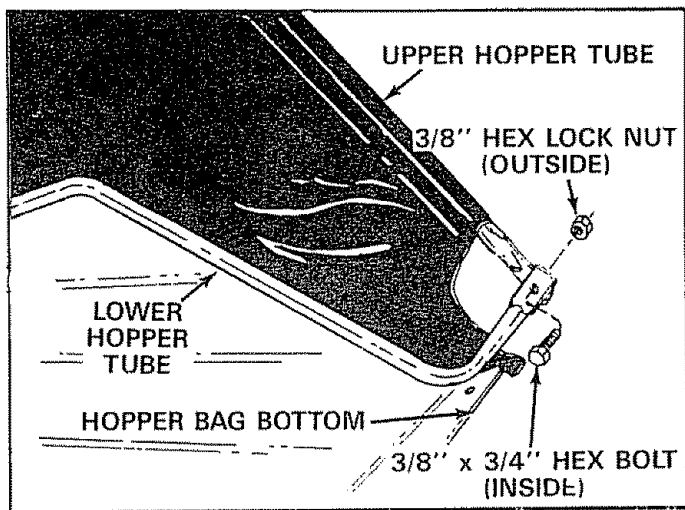

FIGURE 14
- Place assembled lower hopper tubes into bottom of hopper bag. See figure 14.
- Assemble the upper and lower hopper tube ends together with two 3/8" x 3/4" hex bolts (inside) and 3/8" hex lock nuts (outside). See figure 14. Do not overtighten to allow for pivot.